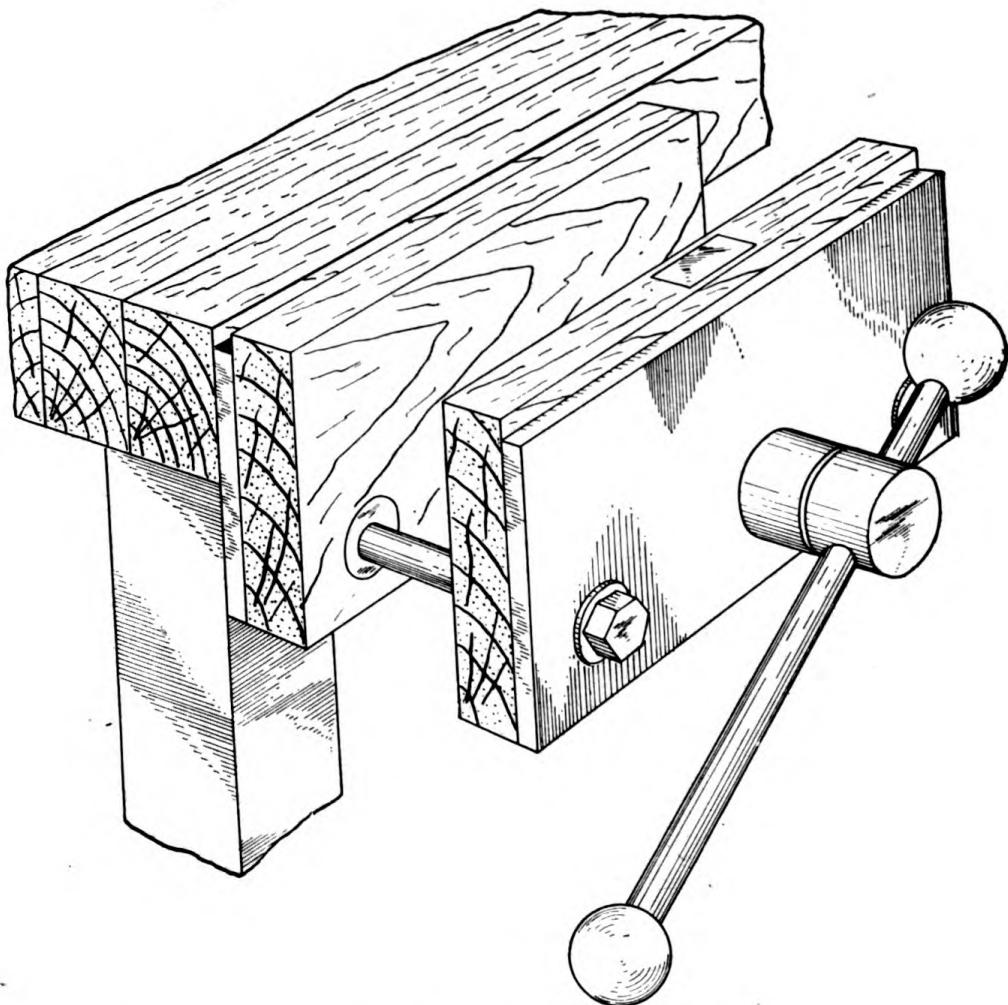

Figure 84. *Woodworking vise.*
c. WOODWORKING VISE. (1) A woodworking vise has hardwood jaws instead of steel jaws, to prevent marring the wood that is held in it. (See fig. 84.) Its use in a woodworking shop is the same as that of a bench vise in a metalworking shop.
(2) Often a woodworking vise has a quick-action feature in the tightening screw mechanism. When the screw handle is turned backward one-half turn or more, the screw is disengaged and the vise may then be pulled open or pushed shut. Turning the handle forward one-half turn engages the screw mechanism and the vise may then be tightened.
d. HANDSCREW. (1) The handscrew consists of two hardwood jaws